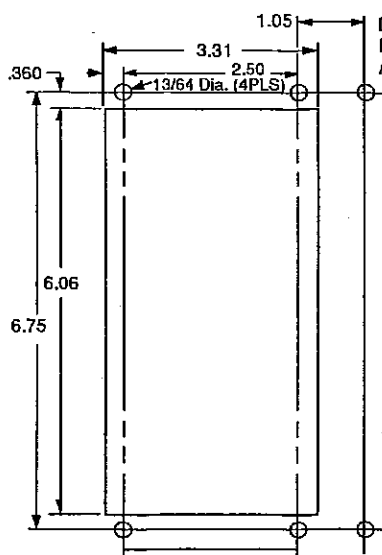

Figure 3. Panel mount cut-out dimensions
- 2. Using the dimensions shown in Figure 3, page 6, cut an opening 3 5/16" x 6 1/16" into the mounting panel for each housing assembly.
- 3. Using the dimensions shown in Figures 3, page 6, drill four (4) 13/64" mounting holes for each housing to provide clearance for the #10 mounting studs.